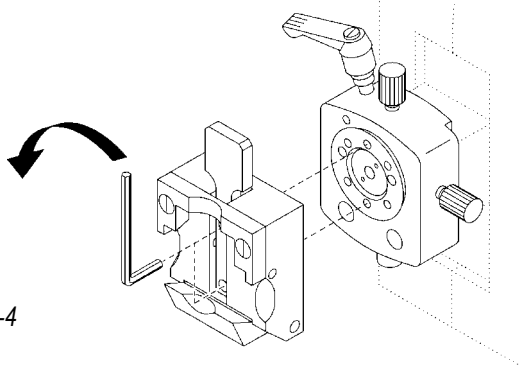

Fig. 3-4
- Place the specimen clamp onto the orientation attachment as shown in Fig. 3-4 and secure it with two corresponding screws.